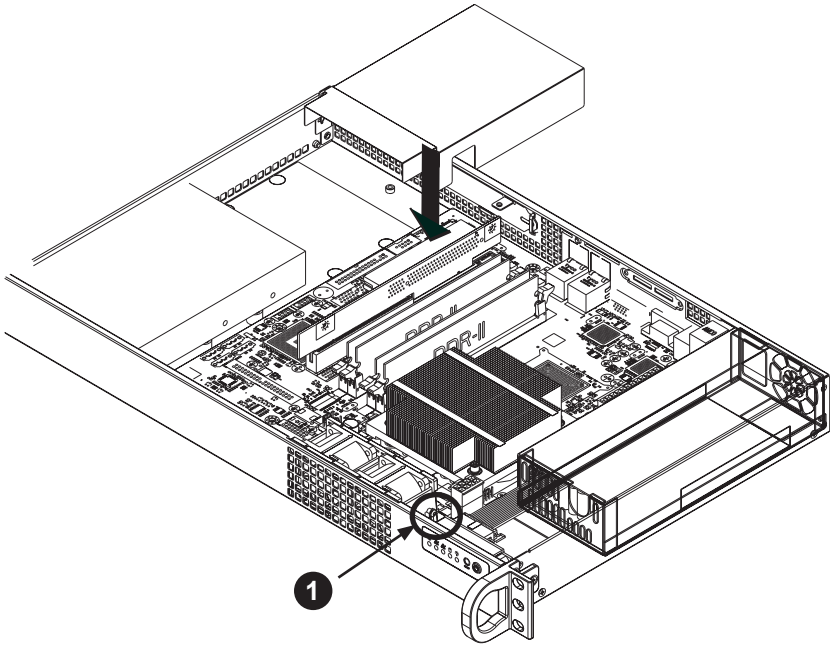

Figure 4-6: Air Shroud for SC510-200B Chassis
4. Remove the fan housing from the chassis by removing the two screws which attach the housing to the chassis. These screws are located in the mounting thru holes on either side of the fan housing. (See figure 4-6). Set these screws aside for later use.